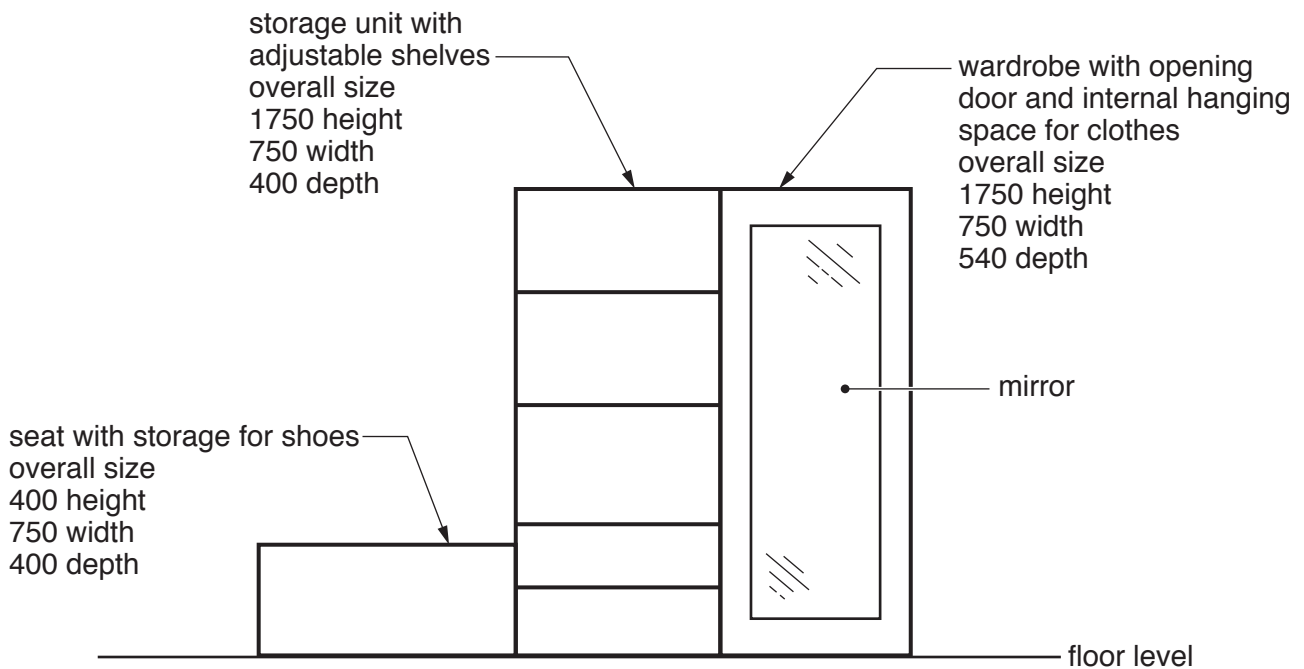

Fig. 10
- 9 Fig. 10 shows an incomplete design for modular bedroom furniture that combines a wardrobe, a storage unit with adjustable shelves and a seat with storage for shoes.